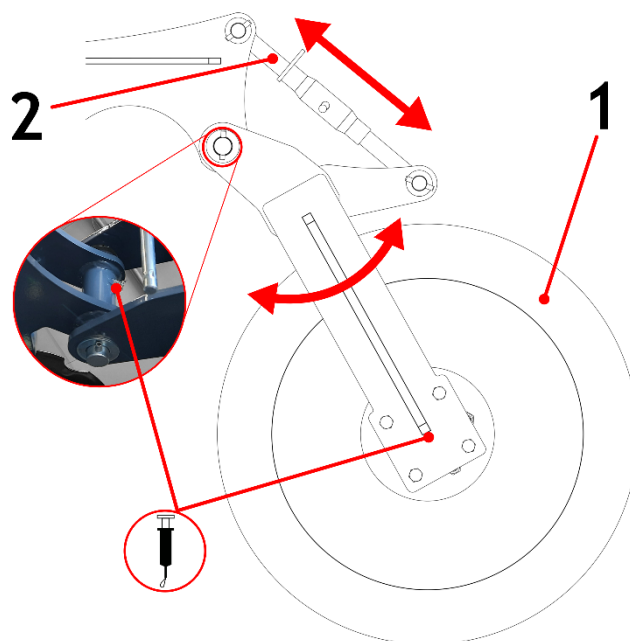

Figure 68 General construction of the support wheel with lubrication points (1 - wheel with hub, 2 - turnbuckle)
The support wheel is designed to help maintain the specified working depth during the operation of the disc harrow and to keep the machine balanced both during operation and transport. It is mounted on the arm of the side frame on both the right and left sides. By using the installed screw jack (Fig. 68, item 2), we can adjust the position of the wheel relative to the machine, raising or lowering it. The higher the support wheel is raised, the shallower the working depth of the unit. To ensure proper operation of the wheel, the tire pressure must be monitored.